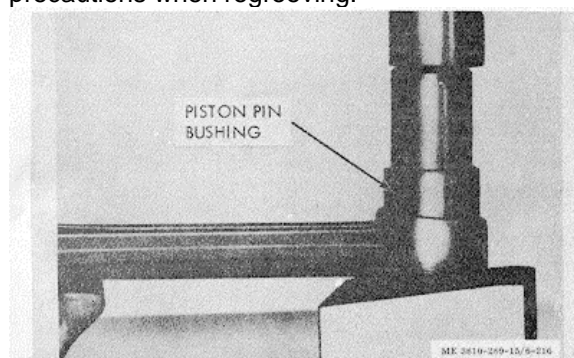

Figure 3-208. Piston pin bushing installation.
1. Use ST-605 Mandrel and Block in an arbor press to press out old piston pin bushing. Figure 3-208.